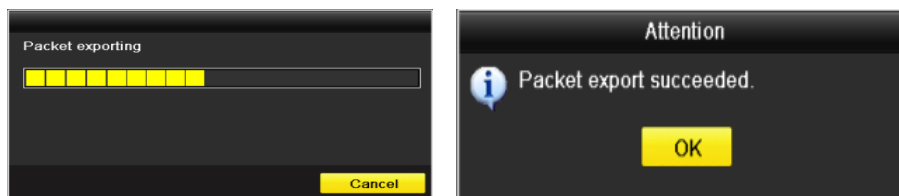

Figure 9-23 Packet Export Attention
5. After exporting is complete, click **OK** to finish the packet export, as shown in Figure 9-23.